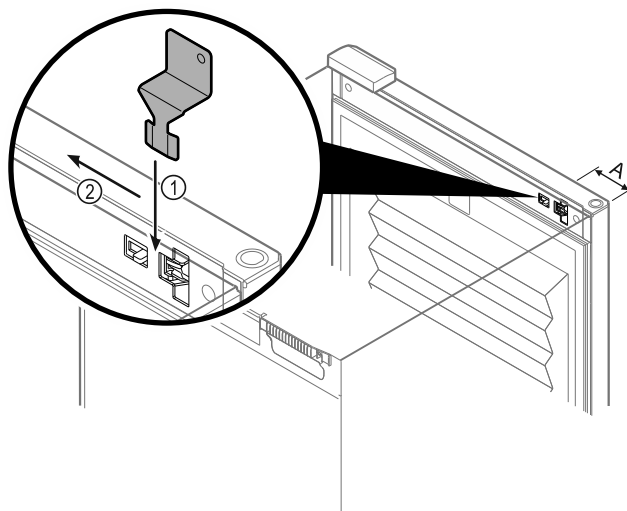

Fig. 100
- ▶ Insert the emergency release key in the specified position *Fig. 100 (A)* ≈ 100 mm.
- ▶ Insert the emergency release key *Fig. 100 (1)* between the door and the body of the appliance from above to the end stop.
- ▶ Pull the emergency release key towards the hinge. *Fig. 100 (2)*